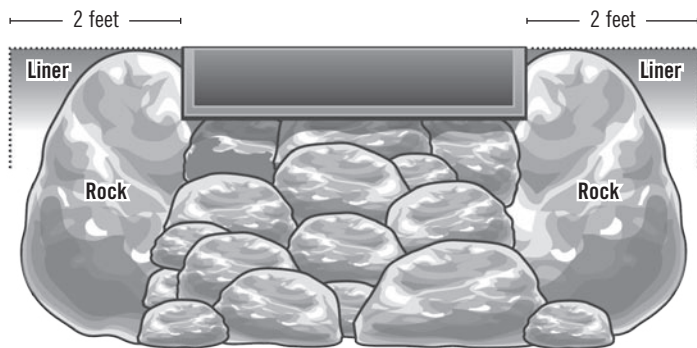

Fig. 10 Place two larger boulders on either side of the waterfalls you are creating in order to “frame” the waterfalls.
- Place two larger boulders on either side of the waterfall you are creating in order to “frame” the waterfalls. The water will be running between the two larger boulders you’ve set in place. (See fig. 10)